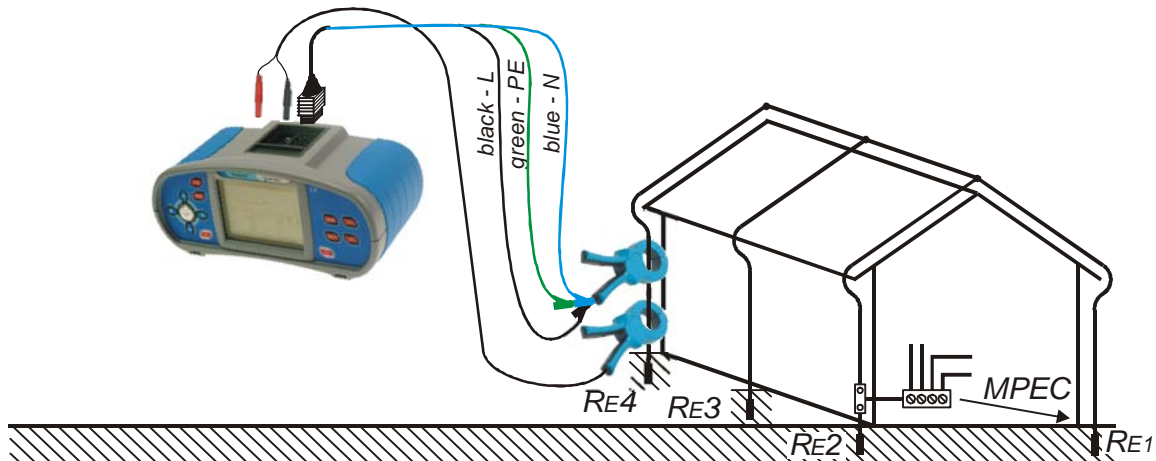

Figure 5.37: Resistance to earth, two clamps measurement of lighting protection
- ☐ **Connect** test clamps to the tested object (see figure 5.37).